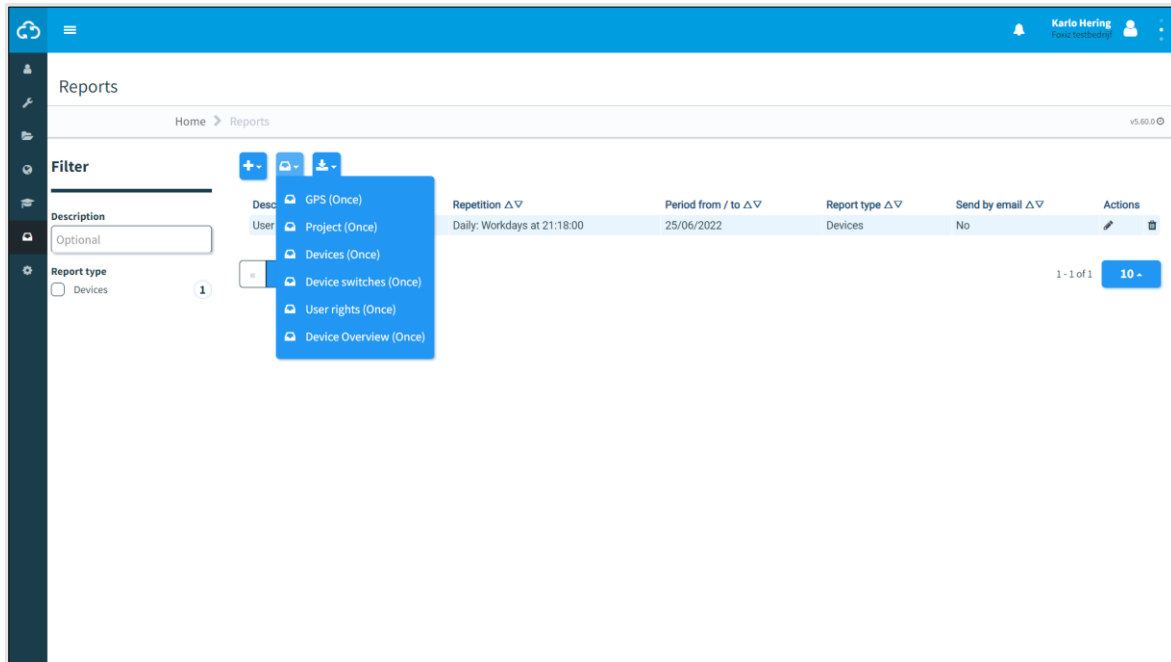

Figure 89 Reports - once
- Step 3 - General (Figure 89).